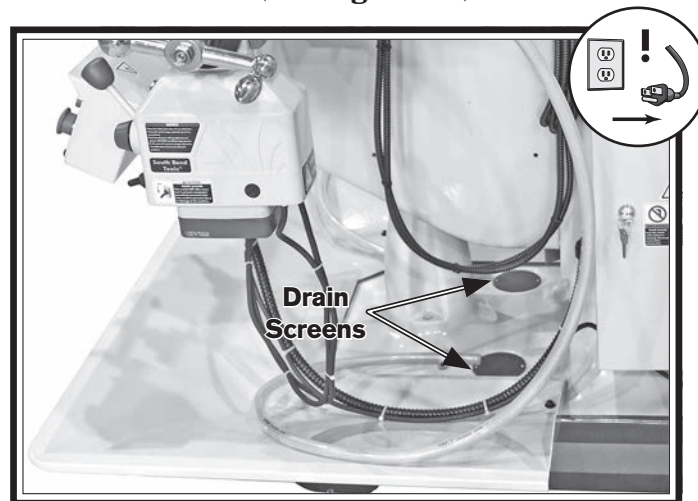

Figure 80. Locations of coolant drain screens.
2. Clean away debris and grime from coolant drain screens (see **Figure 80**).
8. Clean away debris and grime from coolant drain screens on base of mill (see **Figure 80** on previous page), then pour coolant through one of the screens to fill reservoir.